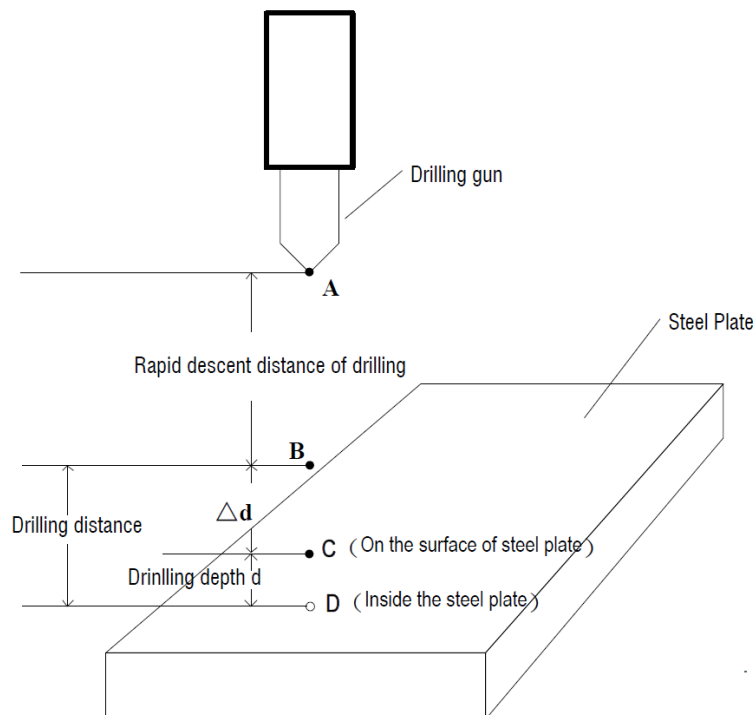

Figure 14.6 Schematic Diagram of Drilling Down
1. Manually lower the rig close to the steel plate surface in the drilling mode until the drill shaft is near the starting position of the drill hole. The B position in Figure 14.6.